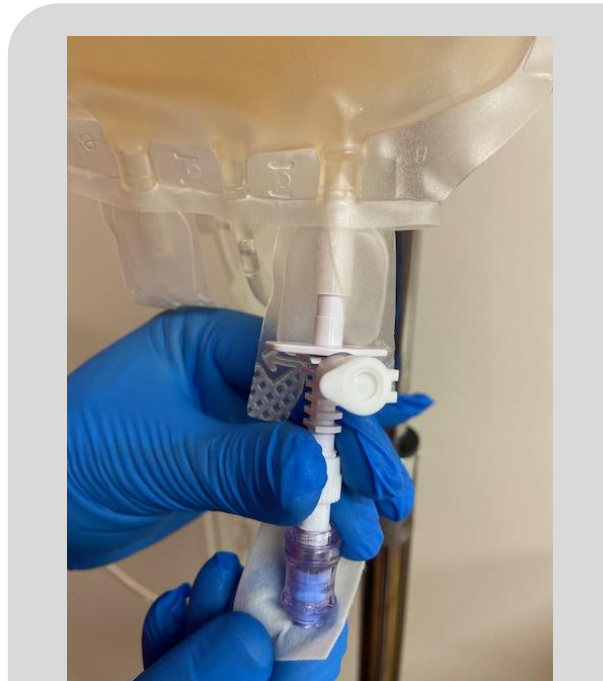

Fig. 8
- Disinfect the needle-free valve with an alcohol wipe (Fig.8).